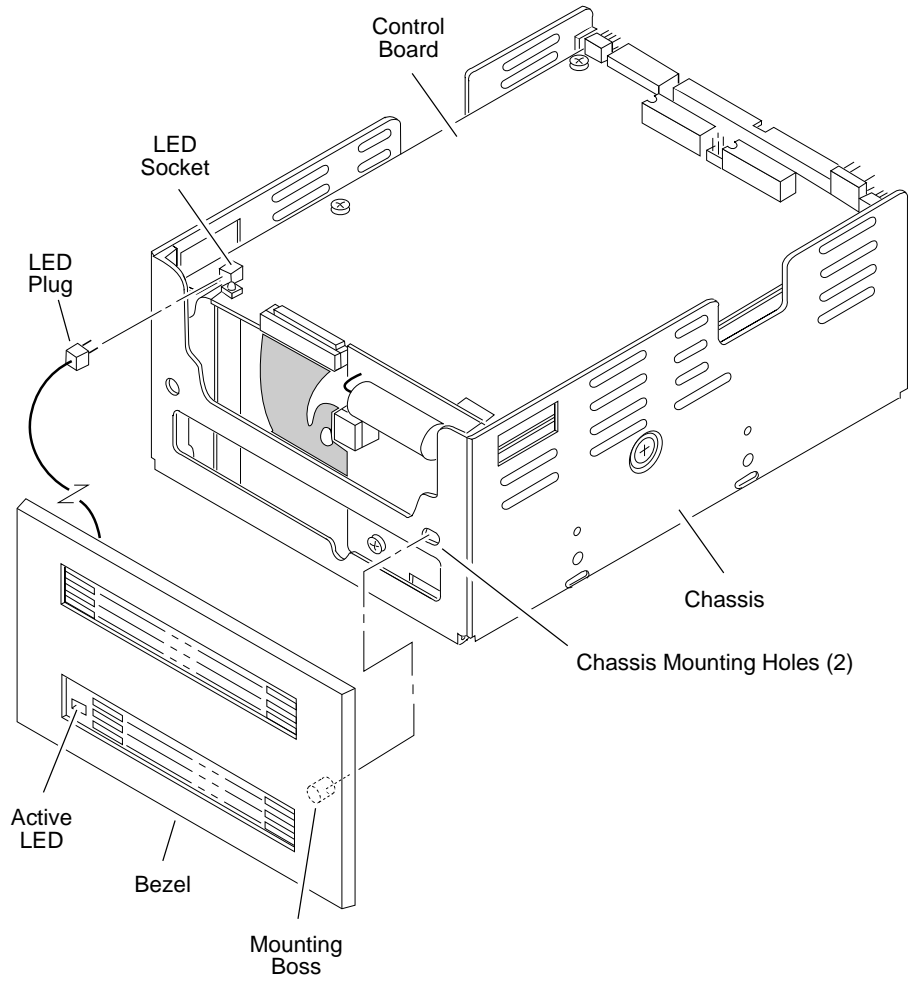

Figure 9. Attaching a bezel
2. Orient the drive and bezel as shown in Figure 9.